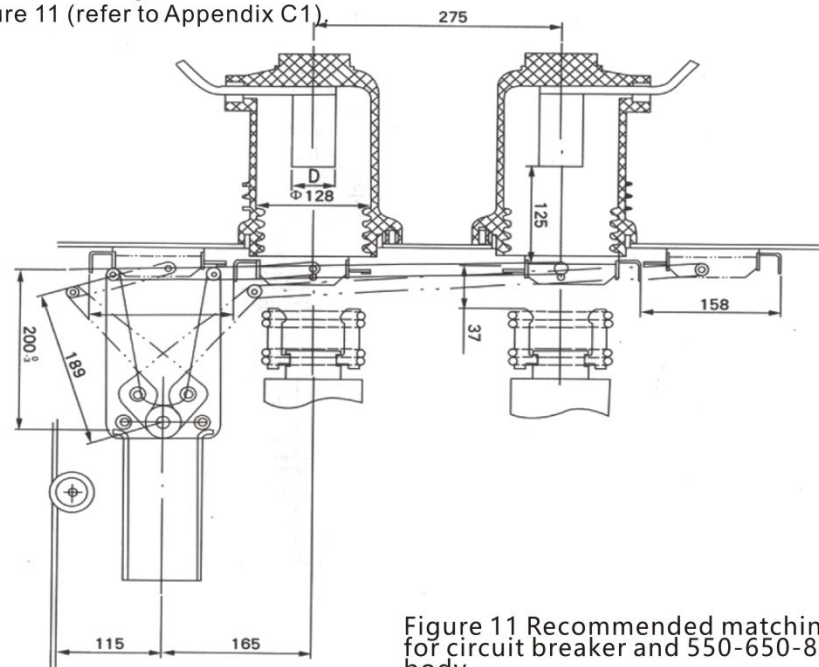

Figure 11 Recommended matching dimensions for circuit breaker and 550-650-800 wide cabinet body
8.1 The recommended mating dimensions between the circuit breaker and the cabinet with a width of 800 are shown in Figure 11 (refer to Appendix C1).
8.2 The recommended mating dimensions between the circuit breaker and the cabinet with a width of 1000 are shown in Figure 11 (refer to Appendix C2).